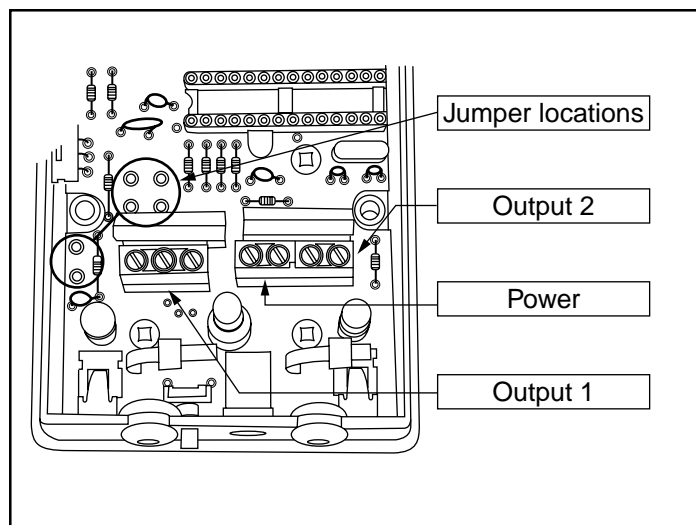

Figure 4. Universal-Link Internal Locations
2. Take the front cover off. Locate the jumpers (see figure 4) and configure as needed (see figure 5).